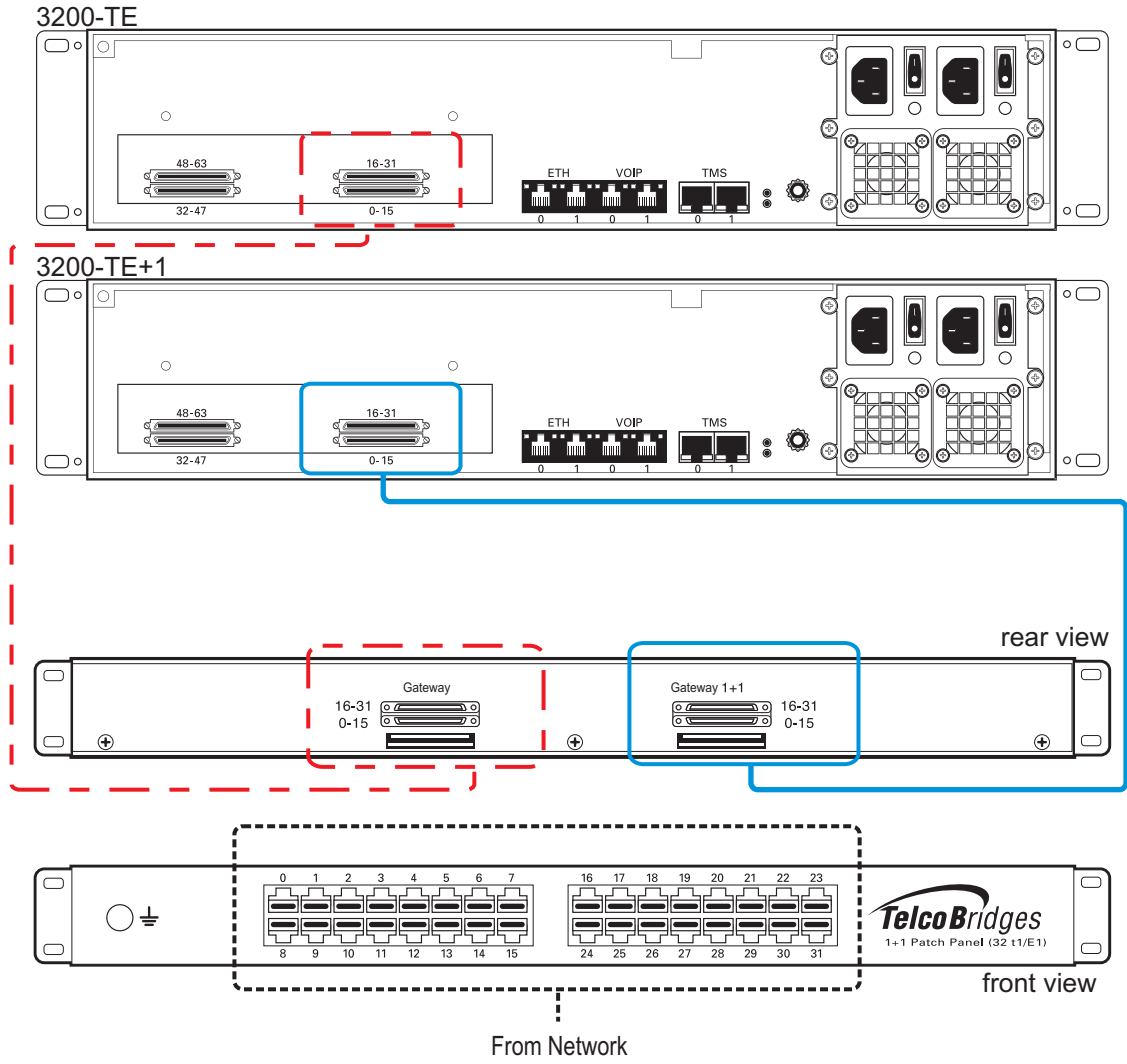

Figure 2.15 3200-TE and 3200-TE+1 connecting to the TDM 1+1 32/T1/E1 1+1 patch panel
1. Connect each T1/E1 line from the network section of the 1+1 patch panel to the remote equipment. See figure 2.15 on page 38.